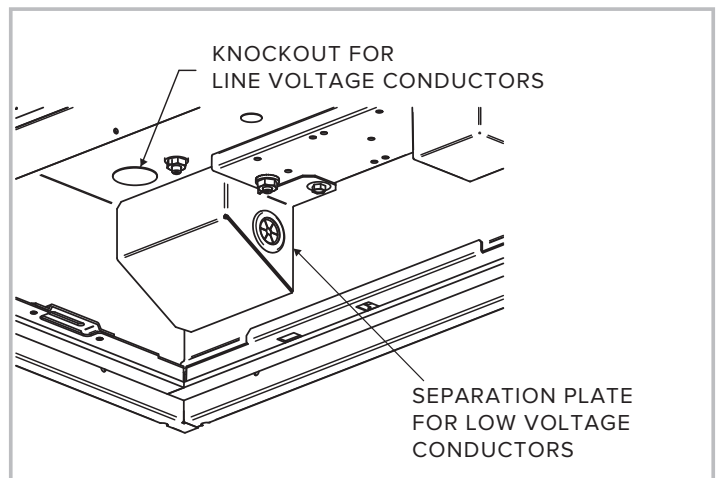

Figure 5b
4. Secure conduit or cable (supplied by others) to the back of the housing through the knockout shown in **Figure 5b** using a threaded hub or equivalent fitting listed for Wet Locations. Locate the leads for the Ambient, Exam, LVC, and/or Night Light loads depending on product configuration, and connect accordingly. If 0–10v dimming is required, secure conduit or cable (supplied by others) to the back of the housing through the knockout beneath the separation plate shown in **Figure 5b** using a threaded hub or equivalent fitting listed for Wet Locations.